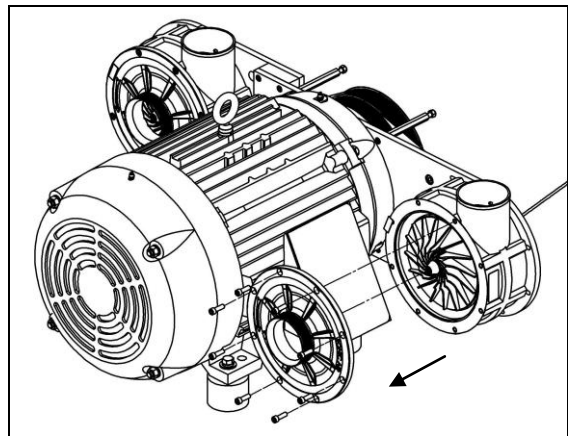

Figure 34 – Remove Cover
5. Remove cover using a 1/4 allen wrench for a Sonic 100/150 or 100/150C Series Blower. (See Figure 34)